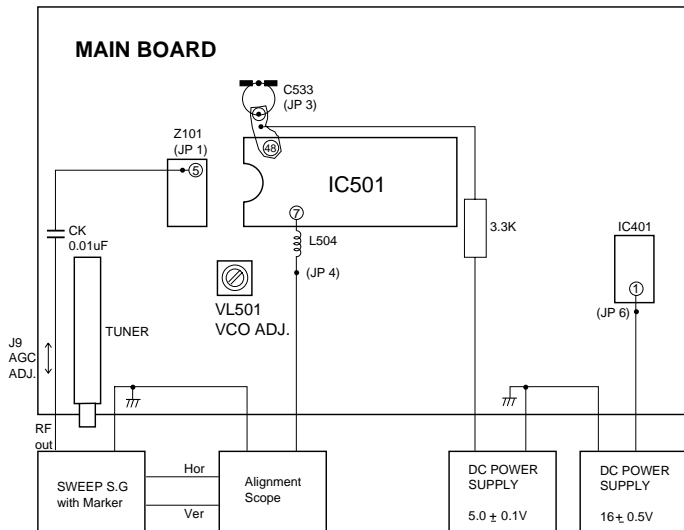

Fig. 1: Connection Diagram of Equipment for VCO Adjustment
1. Connect the measuring equipment to the TV as shown in Fig. 1